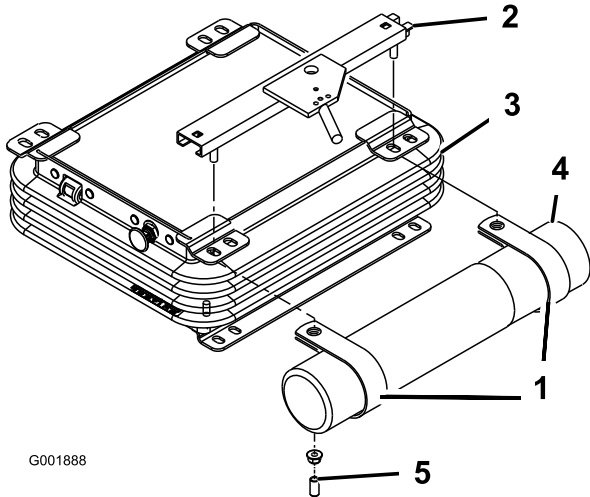

Figure 7
- Remove the 2 nuts and vinyl caps (if previously installed) securing the upper seat bracket to the left side of the seat suspension (Figure 7).
- Loosely mount the R-clamps to the seat bracket studs with the 2 nuts previously removed (Figure 7).